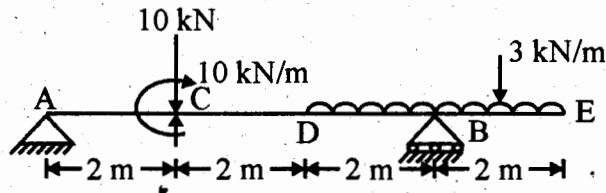

Fig. 7
- (b) Draw SFD and BMD for the following loaded beam also find the point of contraflexure as shown in Fig. 7.